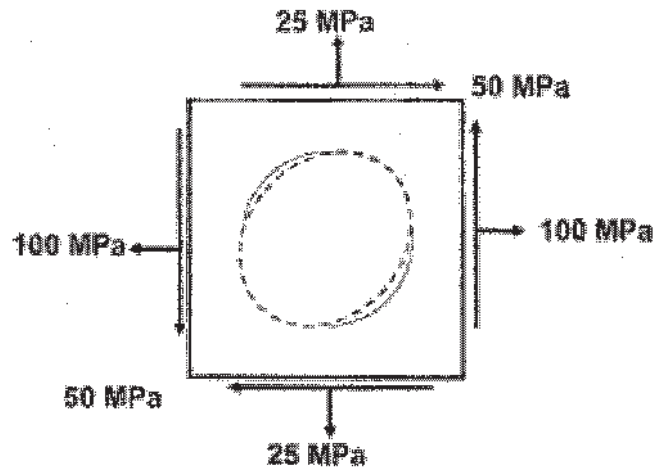

Fig. 5
- Q. 16. A circle of diameter 100 mm is marked on a steel plate. The circle deforms in an ellipse when the plate is subjected to forces as shown in Fig. 5. Determine the major and minor axes of the ellipse and their location, if $E = 200 \text{ GPa}$ and $\mu = 0.3$. 10